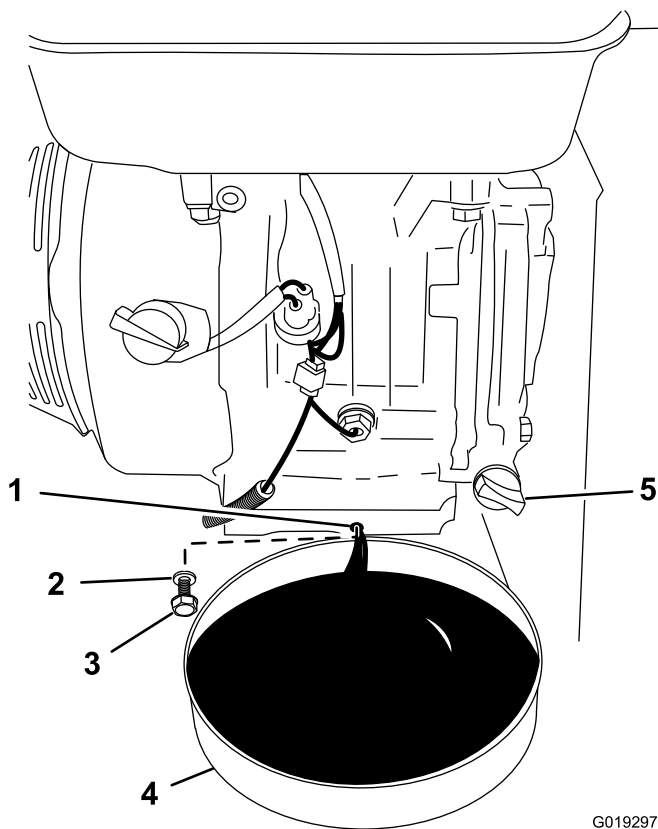

Figure 41
5. Place a drain pan with a 1.9 liter (2 US quart) capacity under the oil-drain port of the engine (Figure 41).
- Remove the drain plug and washer, and drain the oil (Figure 41).
- When the oil has drained completely, install the drain plug with a new washer, and wipe up any spilled oil (Figure 41).
- Remove the oil fill cap/dipstick and slowly pour approximately 80 percent of the specified amount of oil into the engine (Figure 41).